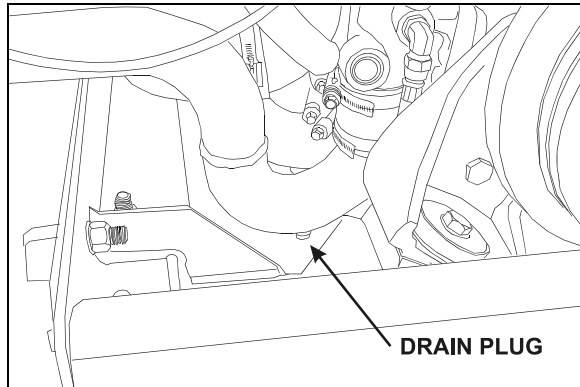

FIGURE 9: WATER PUMP DRAIN PLUG 05072
3. Open the water pump housing inlet line drain plug (Fig. 9).